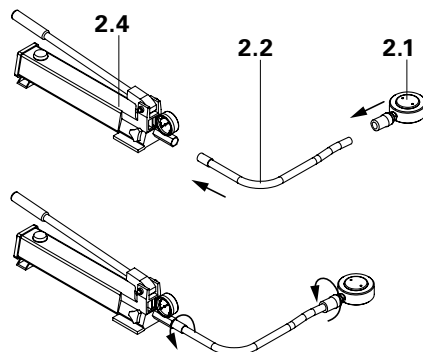

Fig. 15
3. Remove dust caps and screw hydraulic hose (2.2) together with the hydraulic hand pump (2.1). (Fig. 15)